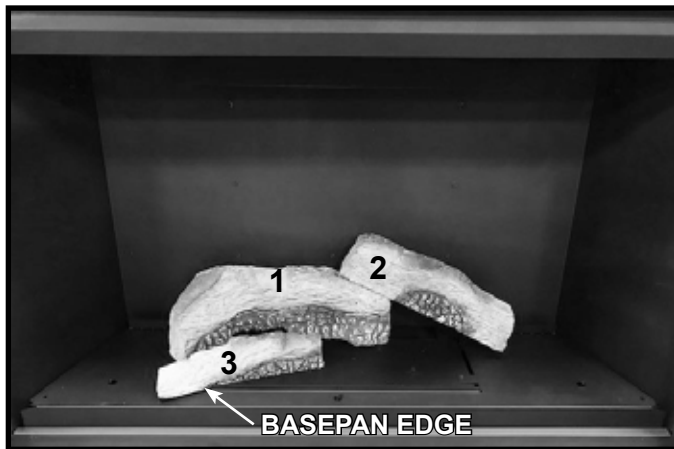

Figure 6. Install Log #3
- LOG #3:** Locate and install Log #3 by installing the “right” end of the log over the left burner pin and pressing “down” to engage log pin. Rotate Log #3 counterclockwise until it contacts the base pan edge as shown in Figure 6.